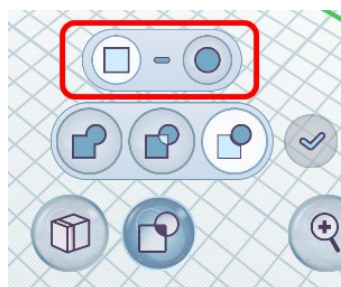

Figure 107 – Minuend and Subtract selection panel
- 2) Activate the **Subtraction** tool by clicking the  button in the tool options bar. An additional panel appears that allows you to set whether clicking the pointer selects the shape as a minuend or as a subtract (Figure 107).